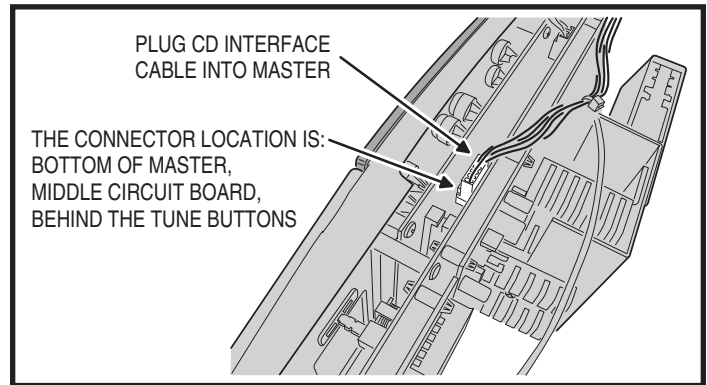

Figure 21. CD/MP3 Player Interface Connection on Master
2. Insert one end of the CD Player interface cable into the CD interface connector on the DMC3-4 Master Station. This connector is located in the center of the DMC3-4 Master Station's middle circuit board approximately behind the two TUNE buttons (see Figure 21).